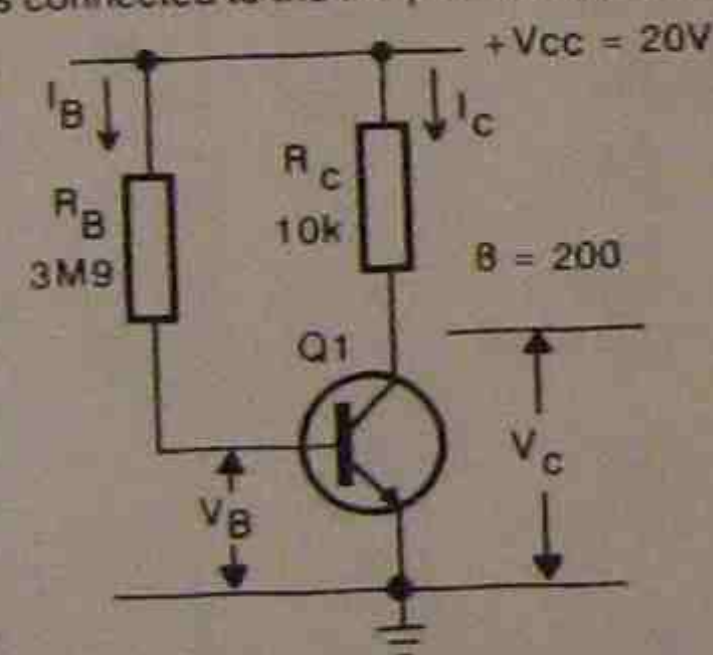

Fig.1: Basic transistor amplifier circuit
The simplest possible transistor amplifier circuit is shown in Fig.1, in which  $R_B$  supplies the bias voltage for the base-emitter and  $R_C$  converts the collector current variations to a voltage variation.
When an amplifier has no input signal, the DC voltages around the circuit are referred to as the DC **quiescent** voltages. That is, it is ready to go, in the same way a car engine idles at standstill. The DC values that need to be considered are shown in Fig.1 and are defined as follows:
### 4. CALCULATING DC QUIESCENT CONDITIONS FOR FIG.1
For the single resistor base bias circuit of Fig.1 the DC conditions are calculated as follows:
In Fig.1, the base current is supplied through  $R_B$ , and the collector current that results is simply the base current multiplied by the DC current gain ( $\beta$ ) of the transistor. The collector voltage ( $V_C$ ) is determined by subtracting the voltage drop across the collector resistor  $R_C$  from the supply voltage  $V_{CC}$ . If an AC signal is applied to the base terminal, via a DC blocking capacitor, the base current will vary with the AC signal, increasing when the AC input goes positive, and decreasing when it goes negative. The changes in the base current will produce corresponding changes in the collector current, and the voltage drop across the collector resistor will also change. Thus, an amplified version of the input voltage will appear at the collector terminal.
- Change in  $\beta$ :** A change in the current gain ( $\beta$ ) occurs to some extent with temperature, but large changes can occur if the transistor is replaced. As described in previous notes, a transistor of a given type is usually specified as having a current gain between a range of figures. In the circuit of Fig.1, the current gain of the transistor is assumed to be 200, and the resistor values have been determined on this basis. However, if the transistor is replaced with one having a current gain of say 300, then the DC conditions for the circuit will alter as  $I_B$  will change, in turn changing  $I_C$  which then alters the value of  $V_C$ . The proof is shown below.